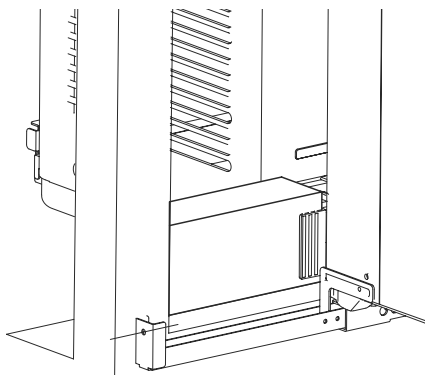

Figure 7
C. Cut the sealed sponge to proper length for sealing the space between the window and unit. See Figure 7.